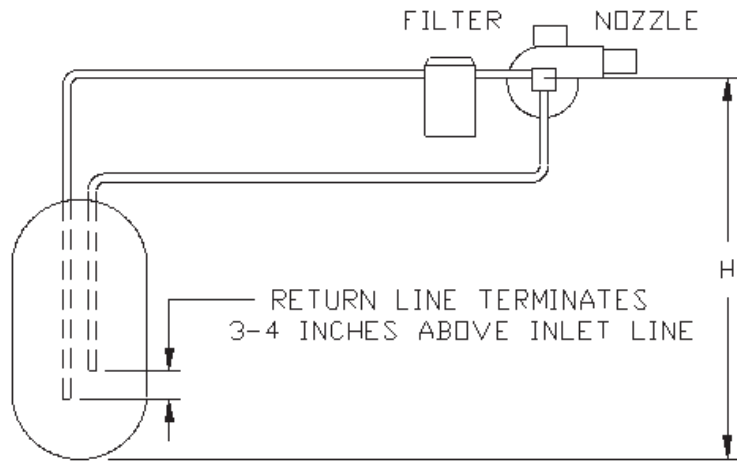

FIGURE 10.4: TWO-PIPE LIFT SYSTEM
- d) TWO-PIPE LIFT SYSTEM - used when a fuel oil storage tank is located below an oil burner fuel pump suction port. See Figure 10.4. The vertical distance from bottom of the tank to center line of the pump (Dimension 'H') must not exceed that shown in the pump manufacturer's instructions. Distance 'H' allowed is reduced by number of fittings, filters and valves installed in the line.